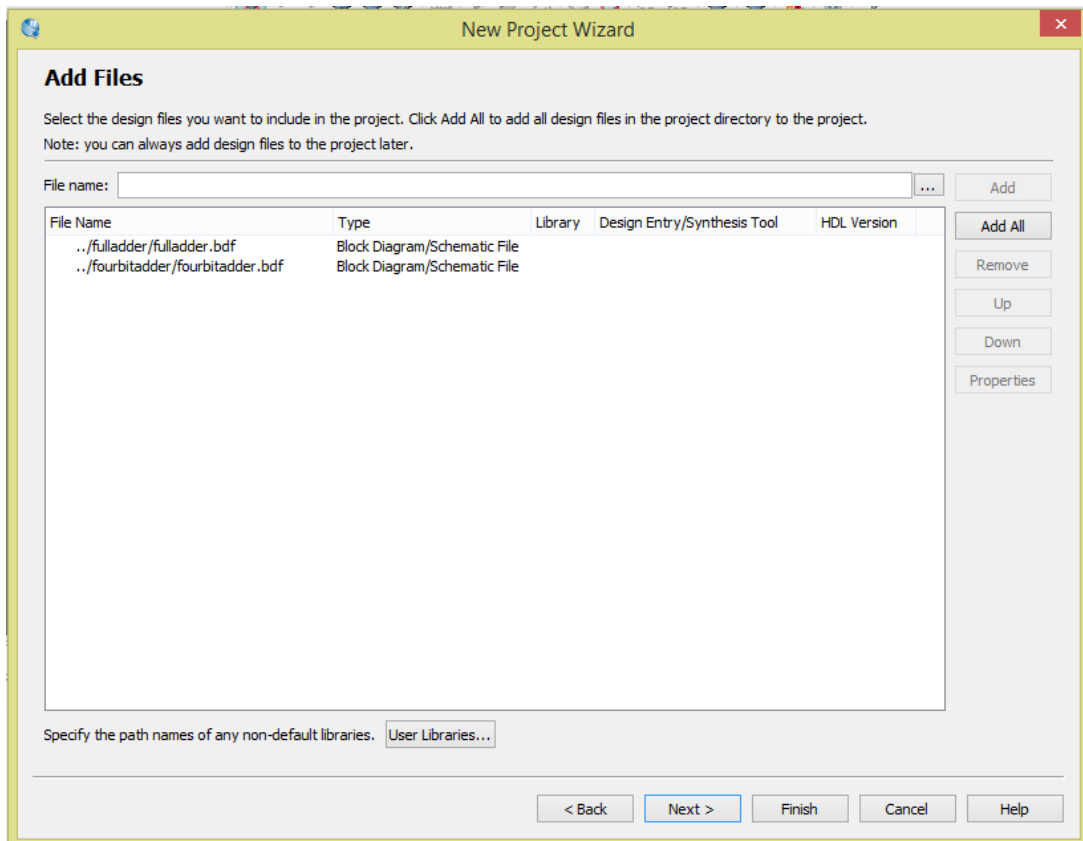

Figure 4.8 Add Files dialog box when you add low-level projects
19. Use the Select File dialog box to locate the lower-level project. Remember that it will be in a different folder. Navigate to the lower-level project directory (...**desktop/exp4/fourbitadder** which probably is already selected). Select the project name (**fourbitadder**) and click **Open**. As the file name for the design file of the lower-level project appears in the box, click **Add** to move this file name to the list of selected files. Repeat this procedure for **fulladder** project, and add it too. At the end, **Add Files** dialog box should be seen like in Figure 4.8.